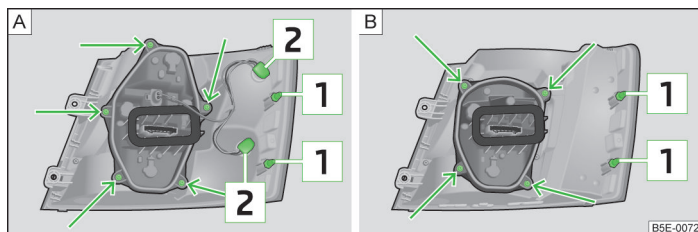

Fig. 231 Outer part of the light: Basic light/light with LED diodes
- Carefully press the tail lamp into the body so that the bolts [1] » Fig. 231 on page 260 on the lamp engage into the mounts in the body » .
- Turn the bulb holder  » Fig. 231 in an **anti-clockwise** direction and remove it from the lamp housing.
- Unscrew the lamp holder » Fig. 231 -  or  use the screwdriver from the car tool kit, and remove the lamp holder from the tail light assembly.
- Turn the bulb holder **anti-clockwise** up to the stop and remove it from the lamp housing » Fig. 231 -  respectively .